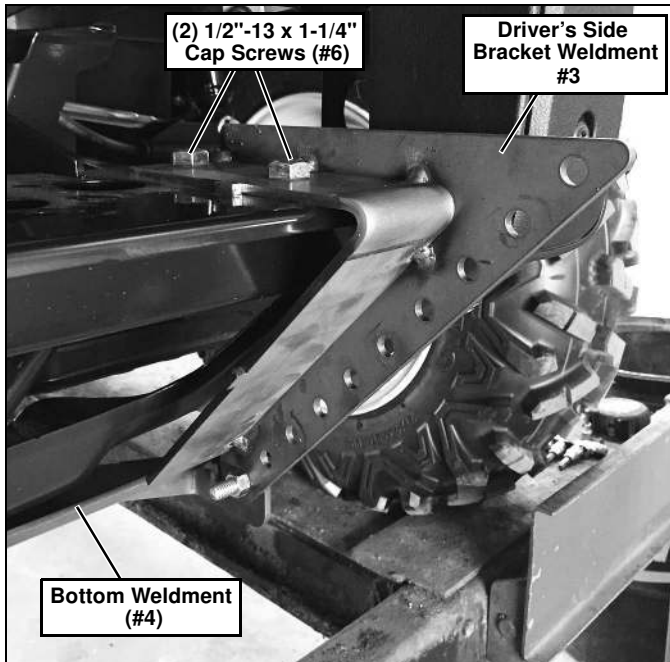

Figure 3
3. On the Driver's Side, position the Driver's Side Bracket Weldment (#3) on top of the UTV frame cross member. The top two holes in the Driver's Side Bracket Weldment (#3) should line up with holes in the frame cross member and the bottom side hole should line up with the side hole in the Bottom Weldment (#4). The Driver's Side Bracket (#3) should be to the inside of the Bottom Weldment (#4). (See Figure 3.)
5. Insert (2) 1/2"-13 x 1-1/4" Cap Screws (#6) and (2) 1/2" Lock Washers (#5) into the top holes of the Driver's Side Bracket Weldment (#3) and thru the UTV frame. (See Figure 3.)